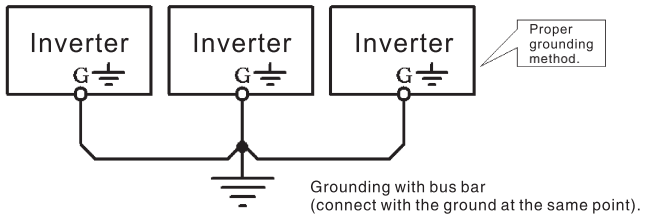

Figure 1-1
- The ground terminal must be reliably and properly grounded to ensure security. To avoid common ground impedance, multipiece inverters should be grounded at one shared point, as shown in the Figure 1-1.